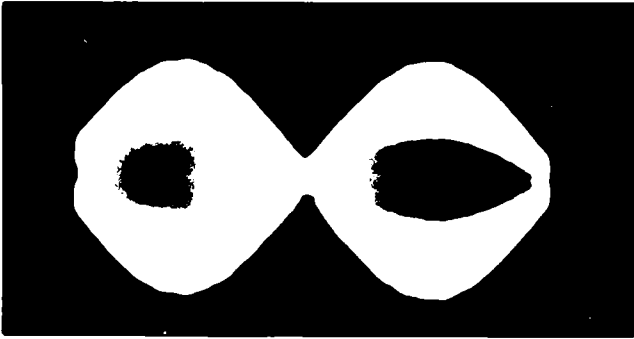

Fig. 3-12. Cat's eye pattern.
13. Rotate the stepping motor housing while observing the oscilloscope display (see Fig. 3-12). The correct setting for the stepping motor produces lobes of equal amplitudes. At the very least, the lobes must be within 90% of each other. Tighten the two screws which secure the stepping motor housing.